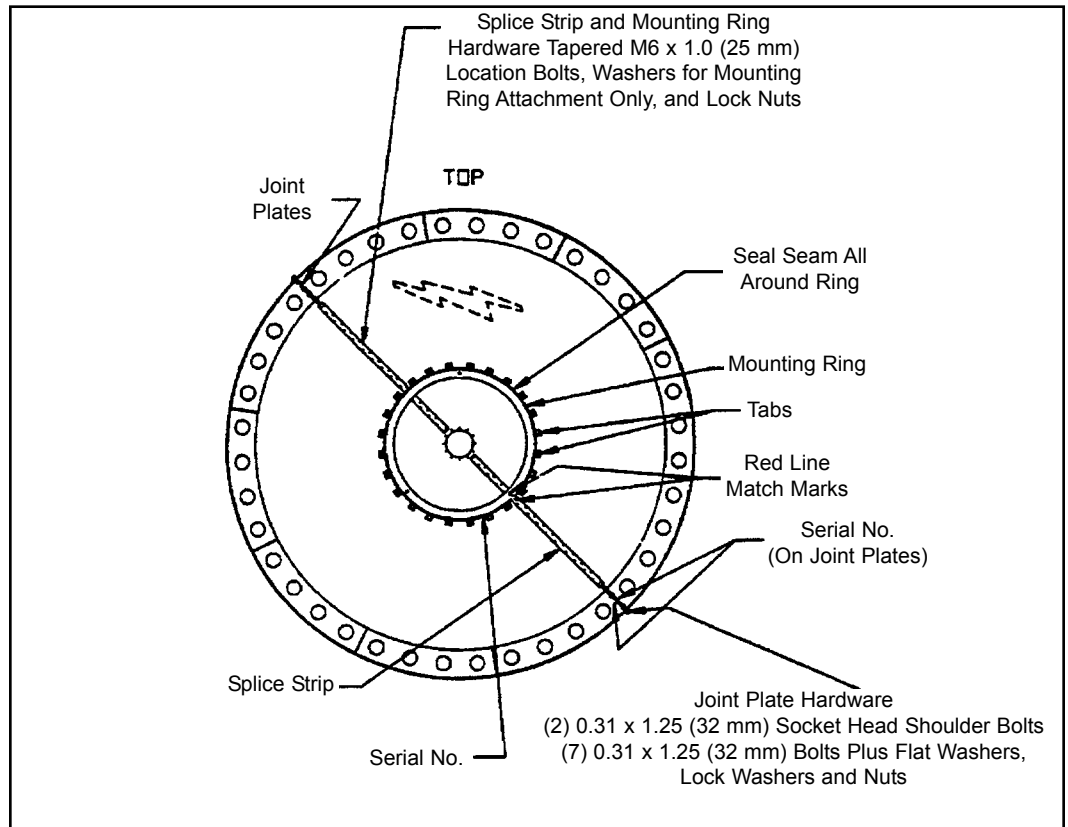

Figure 3-33c: Alignment Bolt Insertions
**Note:** Figure 3-33c provided at the end of this section shows a diagram of the reflector assembly.